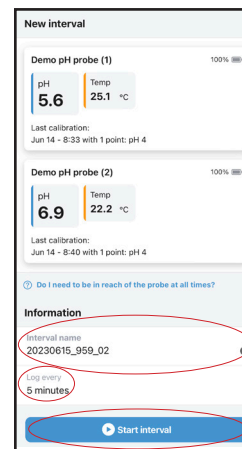

Figure 4
- Rename the Interval under **Interval Name** by clicking the X and typing the desired name (Figure 4)
- Click **Start Interval** (Figure 4)